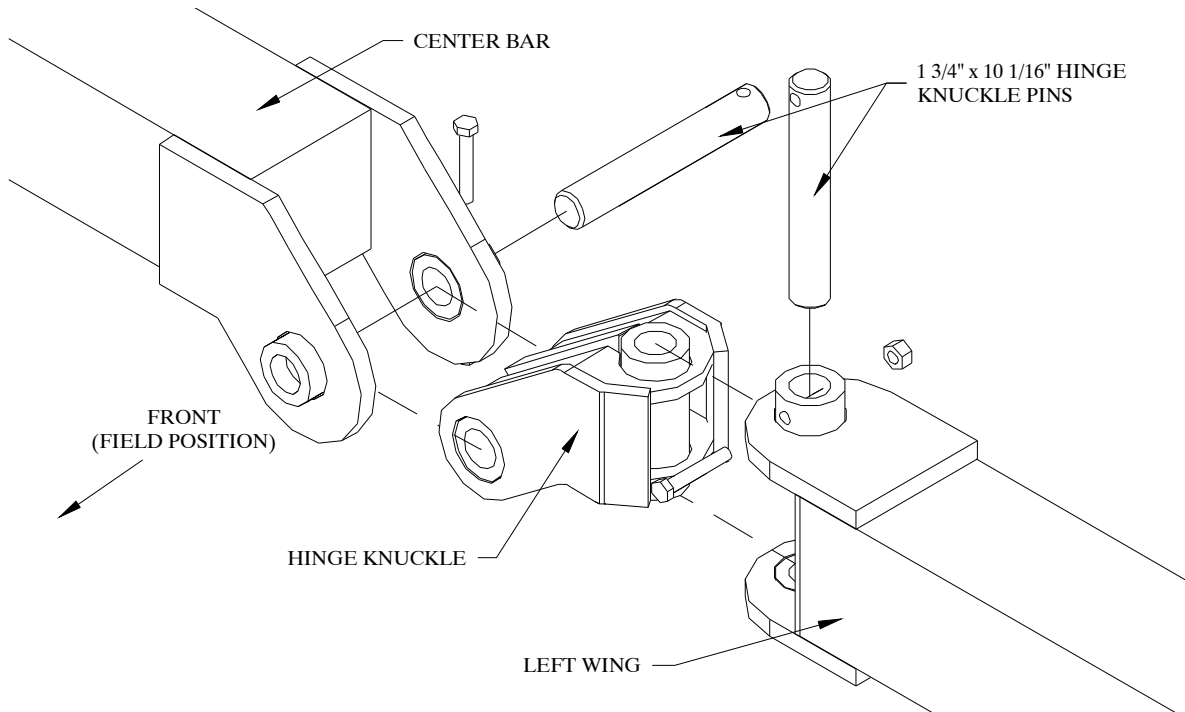

Figure 8
1. Attach the hinge knuckles to the center bar. Use 1 3/4" x 10 1/16" hinge knuckle pins, 5/8" x 4 1/2" grade 8 bolts, and locking hex nuts. Refer to Figure 8.